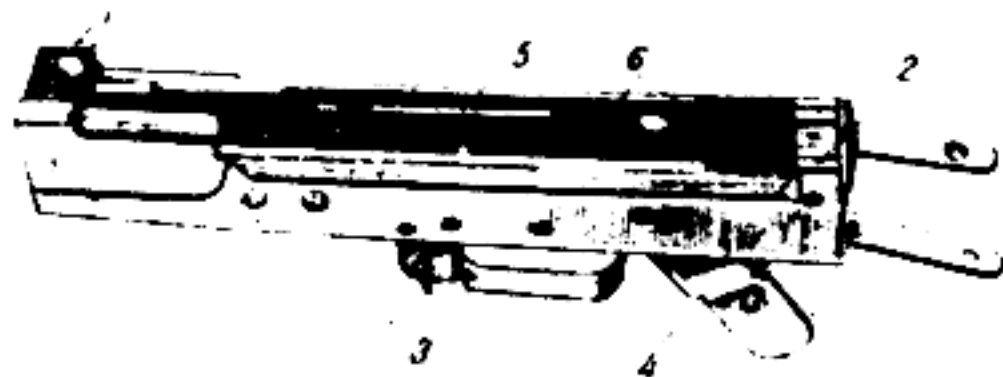

Figure 14. Stamped receiver (assy. 1-1).
There are also automatic rifles with stamped receiver (fig. 14). The stamped receiver has the following construction: An insert (1) is welded to the forward part of these receivers, and back plate (2) to the rear portion.